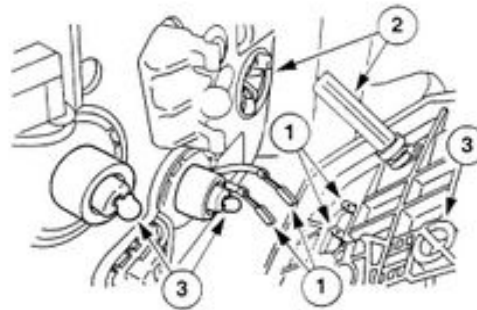

FIGURE 9
7. To loosely install the glass mirror backing plate assembly (refer to Figure 9).